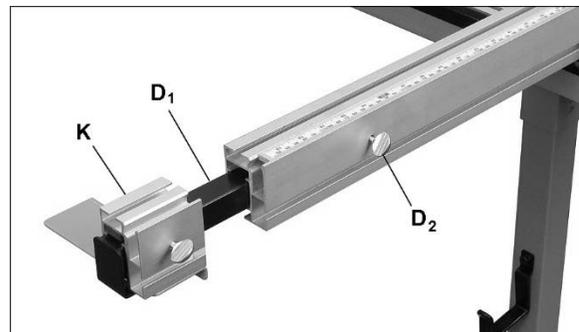

Figure 7-26
8. Pull fence extension (D1, Figure 7-26) all the way out of fence. Install stop assembly (K) onto extension from opposite end.
1. Slide fence extension and stop (see K, Figure 7-26) out of fence.